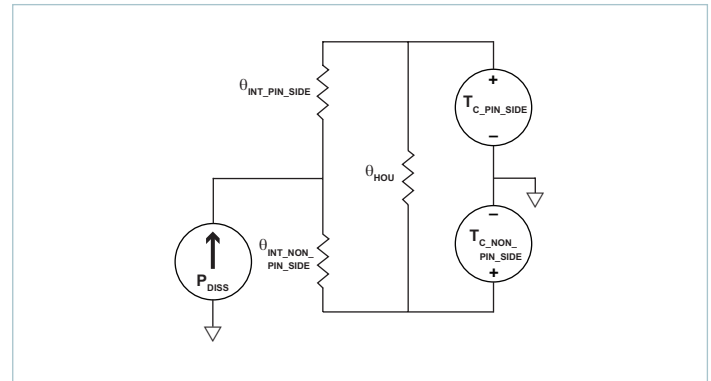
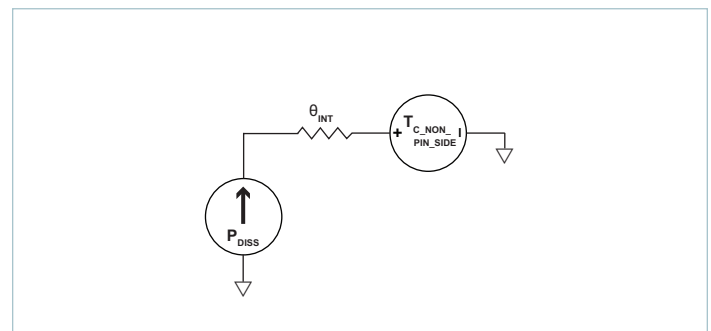

Figure 23 — Double-sided cooling thermal model
Figure 24 — Single-sided cooling thermal model
determining the maximum power that can be processed by a PFM, as can be seen from specified thermal operating area on Page 5. Since the PFM has a maximum internal temperature rating, it is necessary to estimate this internal temperature based on a system-level thermal solution. To this purpose, it is helpful to simplify the thermal solution into a roughly equivalent circuit where power dissipation is modeled as a current source, isothermal surface temperatures are represented as voltage sources and the thermal resistances are represented as resistors. Figure 23 shows the “thermal circuit” for the PFM in a VIA package.
- Single-side cooling: the model of Figure 23 can be simplified by calculating the parallel resistor network and using one simple thermal resistance number and the internal power dissipation curves; an example for non-pin-side cooling only is shown in Figure 24.